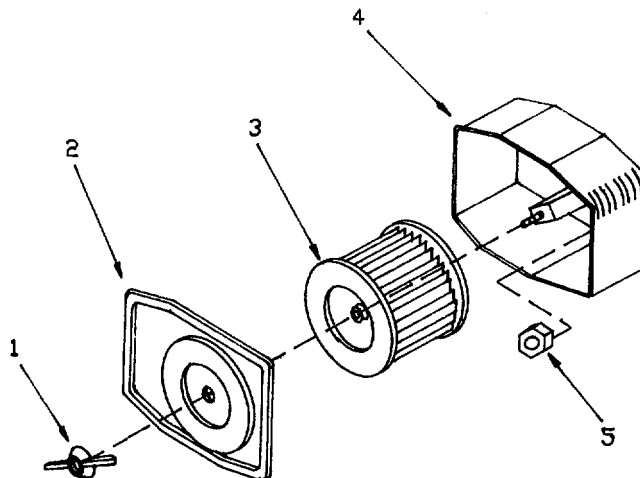

Figure 4-5. Intake Air Cleaner.
- (1) Remove plain wingnut (1, Figure 4-5) and access cover (2).
- (2) Remove filter element (3).
- (3) Remove plain hexagon nuts (5) and air cleaner case (4).
- (4) Wipe air cleaner case (4) and access cover (2) of all dirt, grease, or foreign material.